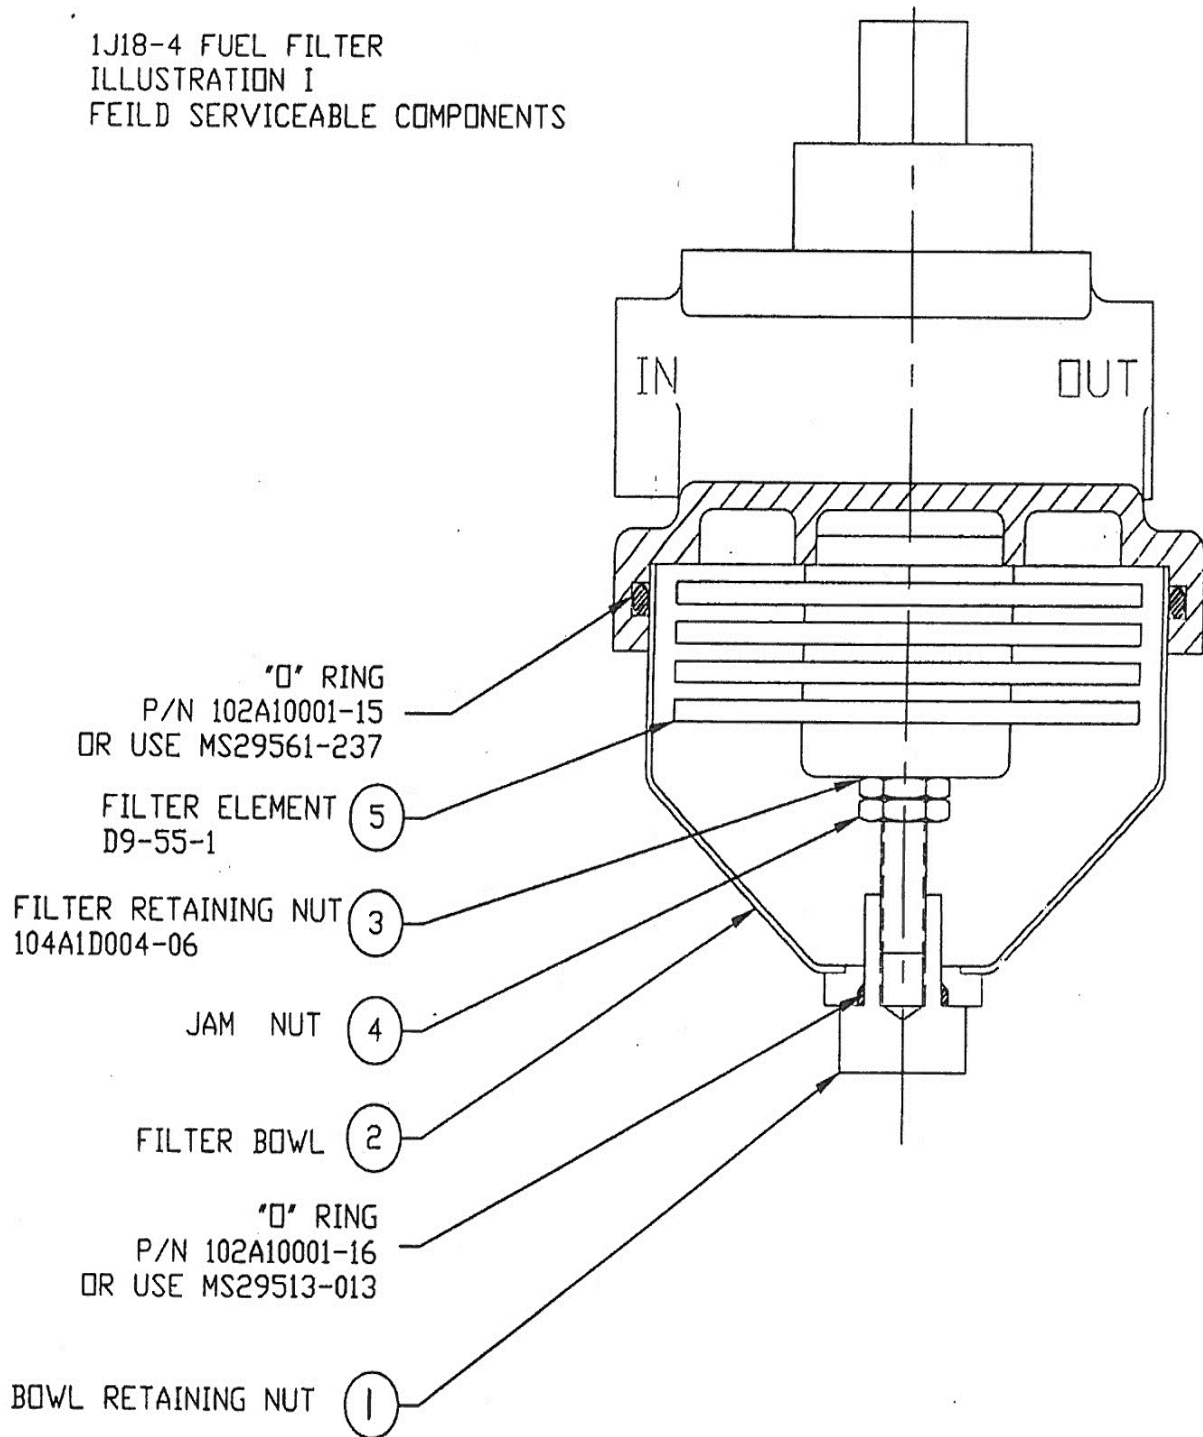

Figure 115-7: Replaceable Parts
- Using 13/16" wrench unscrew hex nut, (Figure 115-7, Item 1) bowl retainer. (Right hand threads.)
- Pull filter bowl (Figure 115-7, Item 2) straight off filter housing stud.
- Using one thin 1/2" open end wrench, hold filter retaining nut (Figure 115-7, Item 3) while loosening jam nut (Figure 115-7, Item 4) with second 1/2" wrench.
- Remove retaining and jam nuts (Figure 115-7, Items 3 and 4).
- Filter element (Figure 115-7, Item 5) will now drop off stud.
- Turn upper half of filter counter clockwise and remove from existing 282010005-001 fitting. **See Figure 115-7.
- i. Replace filter element (Figure 115-7, Item 5) on stud and secure with retaining nut (Figure 115-7, Item 3) tightened moderately.
- j. While holding retaining nut with thin ½” open-end wrench tighten jam nut (Figure 115-7, Item 4) with second ½” wrench.
- k. Push filter bowl (Figure 115-7, Item 2) into housing taking care not to cock sideways.